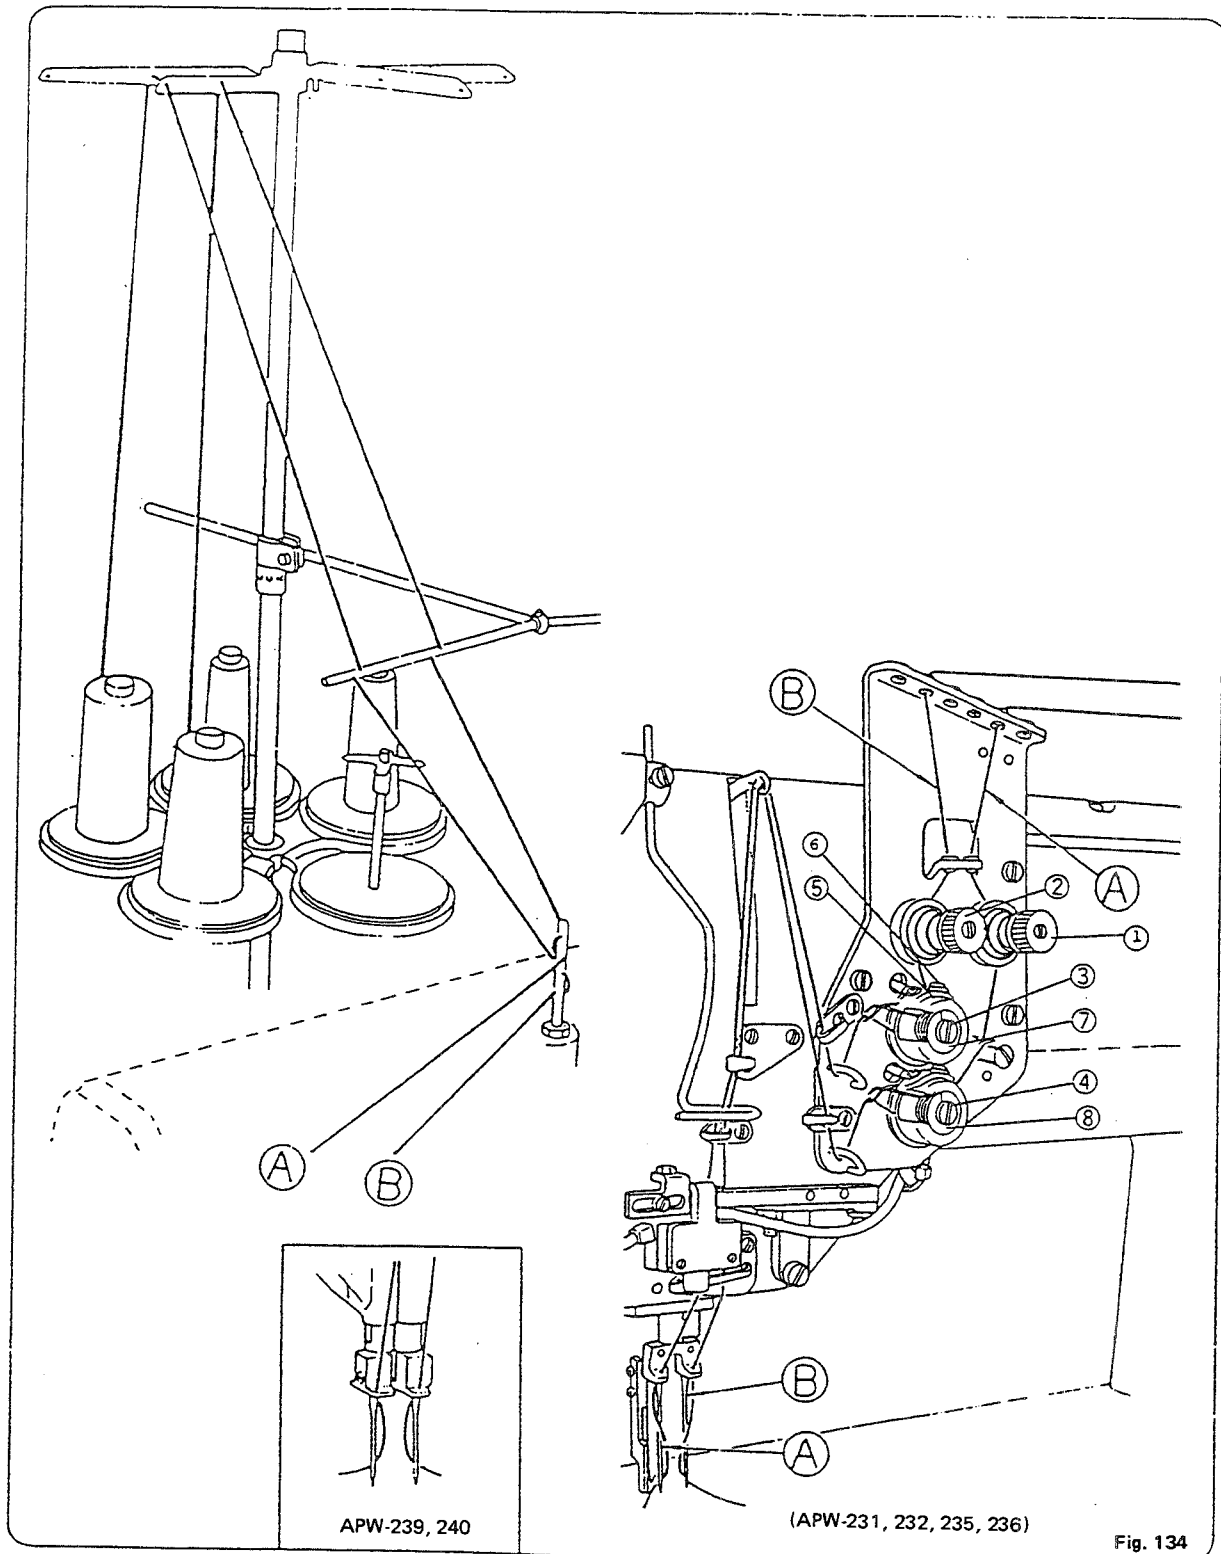

Fig. 134
- Adjust the right needle thread tension by nut ① and the left needle thread tension by nut ② respectively. Turn the nut clockwise to increase or counterclockwise to reduce the tension.
- Setting the AUTO STEPS selector key to "cloth feed" will close the thread tension disc. (See Fig. 134)
For adjusting the tension of the left needle thread take-up spring, loosen screw ③ and turn thread take-up spring knob ⑦. Turning knob ⑦ clockwise will increase and turning counterclockwise will decrease the tension of the left needle thread take-up spring. For adjusting the tension of the right needle thread take-up spring, loosen screw ④ and turn thread take-up spring knob ⑧. Turning knob ⑧ clockwise will increase and turning counterclockwise will decrease the tension of the right needle thread take-up spring. For adjusting the stroke of the left needle thread take-up spring, loosen screw ③ and turn needle thread take-up spring plate ⑤. Turning plate ⑤ clockwise will increase and turning counterclockwise will decrease the stroke of the left needle thread take-up spring. Similarly, the stroke of the right needle thread take-up spring will be adjusted as shown in Fig. 134.